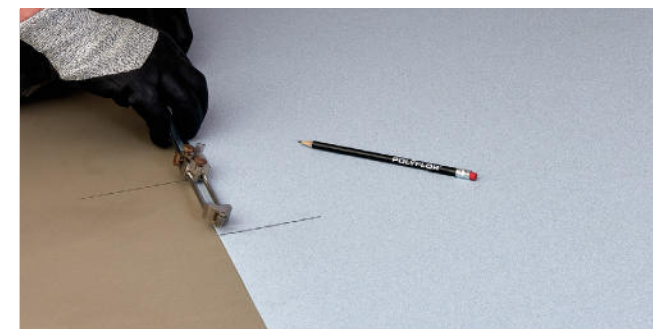

Figure 14 Scribing the wall profile
- > Set the scribes to the distance now between lines C and D (Fig 14)